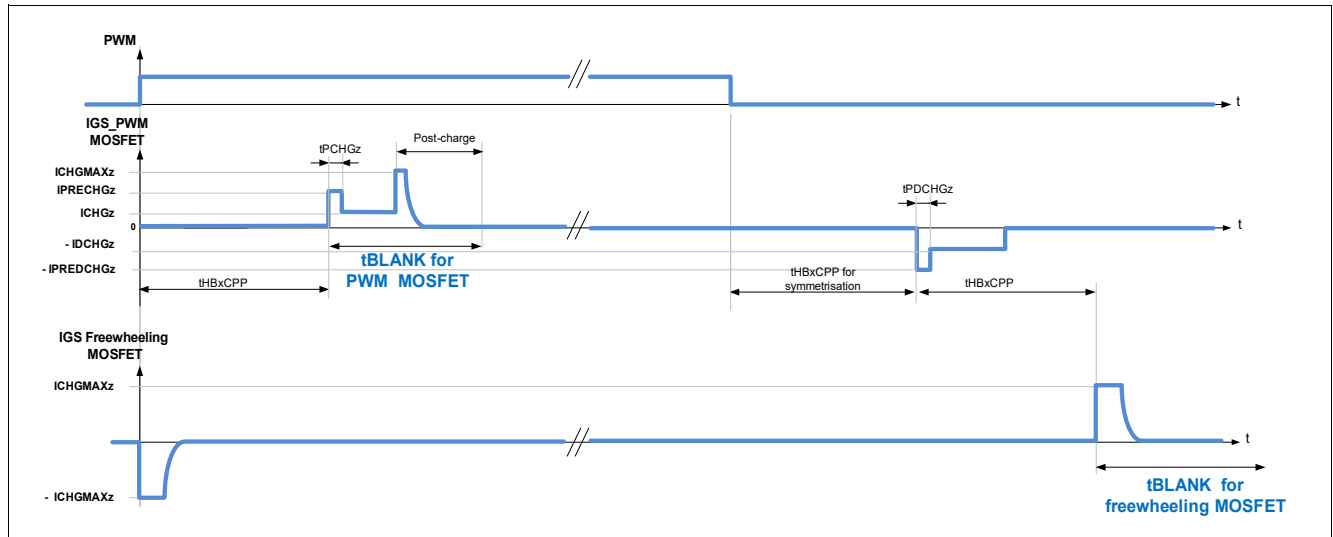

Figure 83 Blank time for half-bridges in PWM operation with AFW = 1
- the blank time of the PWM MOSFET starts at the expiration of the cross-current protection time of the PWM MOSFET. Refer to Figure 83.
- the blank time of the free-wheeling MOSFET starts after expiration of the cross-current protection time at turn-off of the PWM MOSFET. Refer to Figure 83.